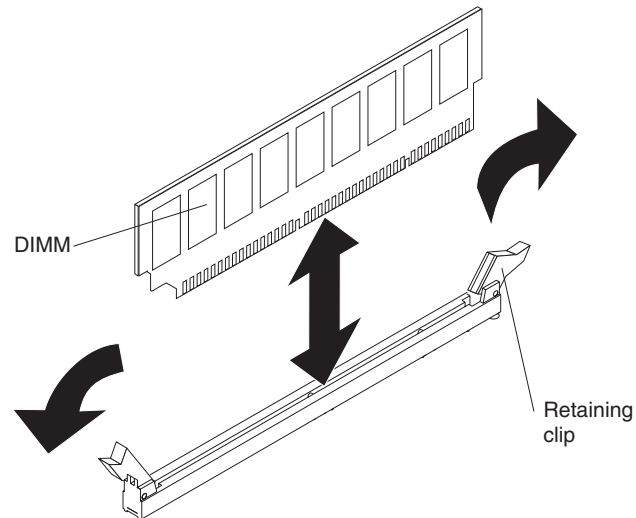

Figure 25. Installing a DIMM
4. Insert the DIMM into the connector (see Figure 25 on page 91). Firmly press the DIMM straight down into the connector by applying pressure on both ends of the DIMM simultaneously. The retaining clips snap into the locked position when the DIMM is firmly seated in the connector. If there is a gap between the DIMM and the retaining clips, the DIMM has not been correctly installed. Open the retaining clips, remove the DIMM, and reinsert it.